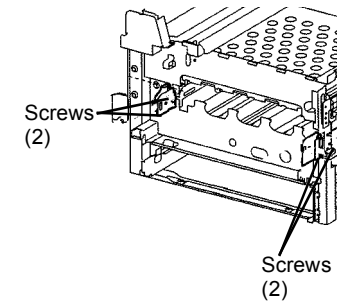

Figure 1 Removing Xerographic Release Lever
11. Remove Xerographic Release Lever Brackets (Figure 1).
- a. Remove Screws (2) and remove Bracket.
- b. Remove Screws (2) and remove Bracket.